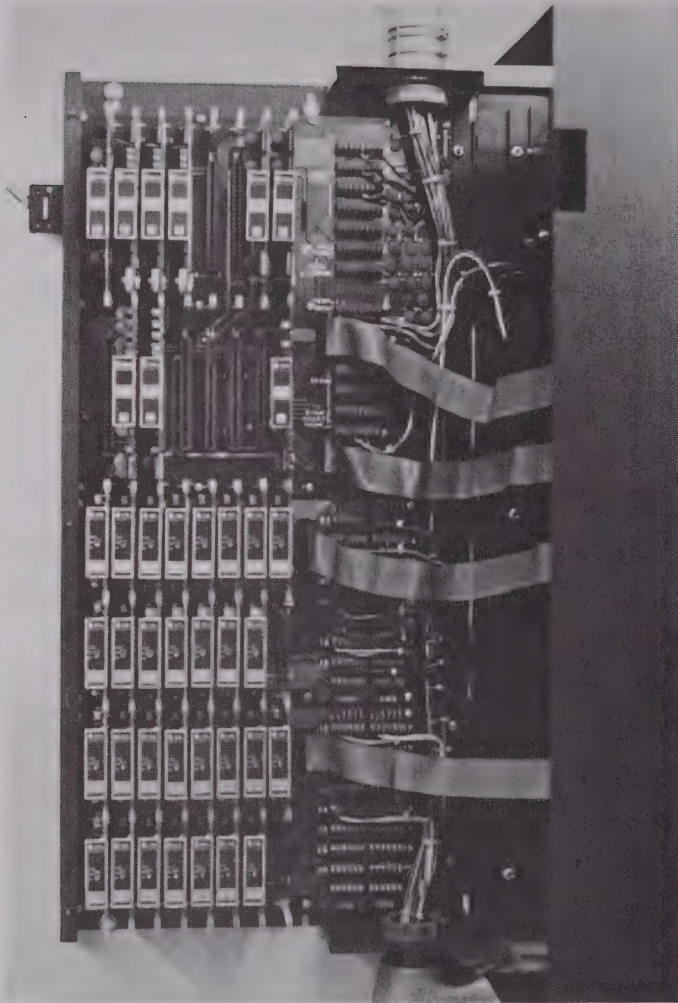

Figure 2.5: Correct Routing of Input and Output Wiring
6) For ease of installation, route all sensor (input) wiring into the unit through the top conduit connection, since these wires are connected to sensor input terminals in the top half of the wiring panel. Run control (output) wiring through the bottom conduit connection as this wiring will be connected to the output relay terminals in the lower half of the wiring panel. Figure 2.5 illustrates the input/output wiring of the Model 830.